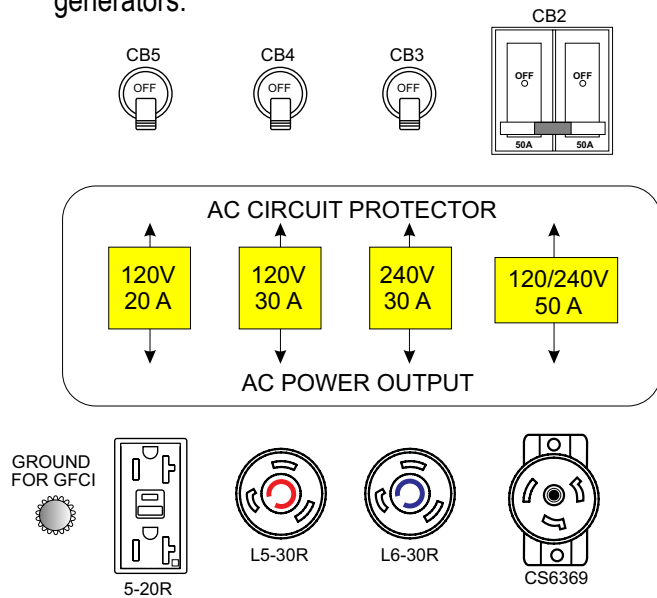

Figure 19. Circuit Breakers
1. To protect the welder-generator from an overload, a 3-pole, 50 amp, **main** circuit breaker (Figure 19) is provided. In addition, there are three circuit breakers provided to protect the GFCI and auxiliary receptacles from overload. Make sure to switch **all** circuit breakers to the **OFF** position prior to starting the welder-generators.